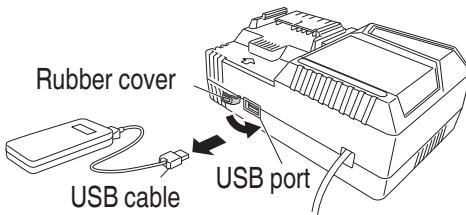

Fig. 21
- Unplug the power cord from the electrical outlet. (**Fig. 21**)